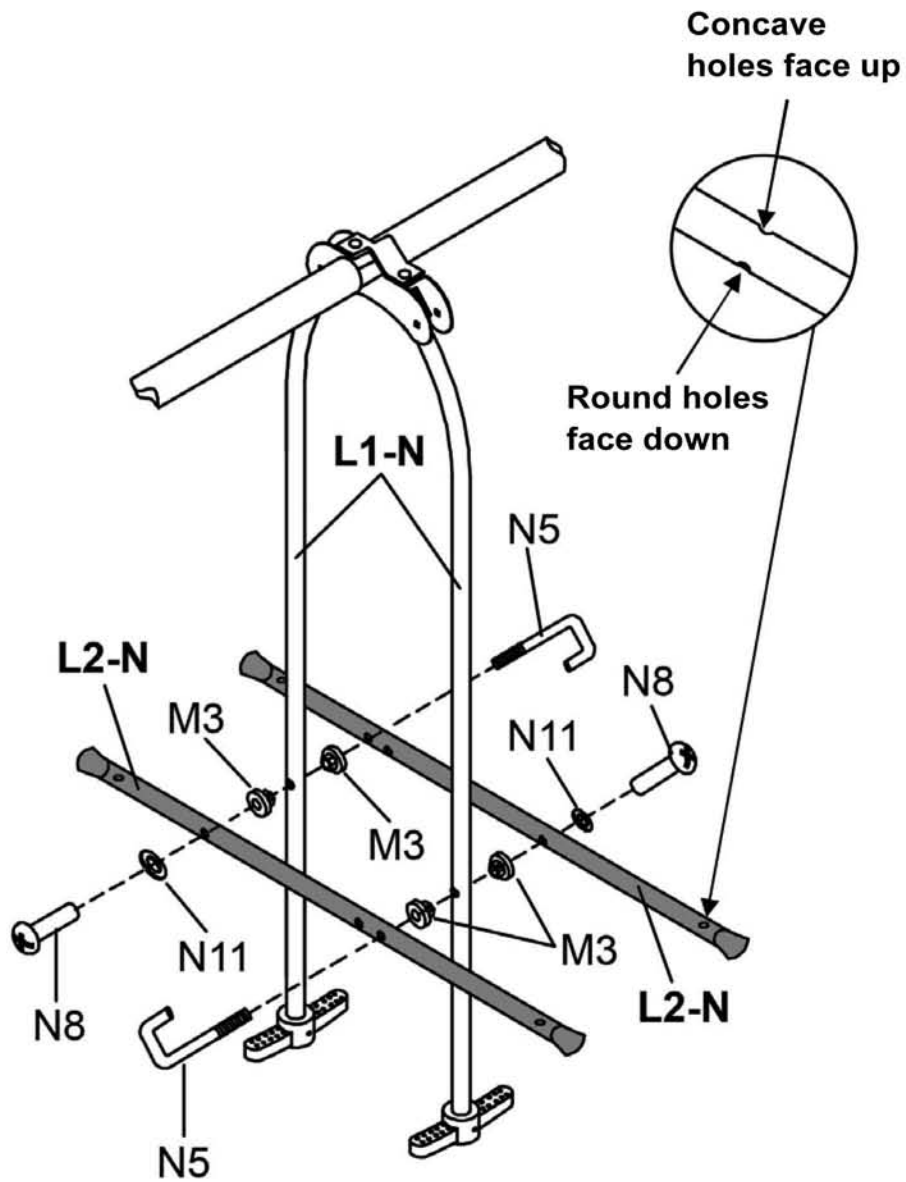

FIGURE 14
- Attach L2-N to L1-N on both sides and secure with N5, M3, N11 and N8 as shown in FIGURE 14.